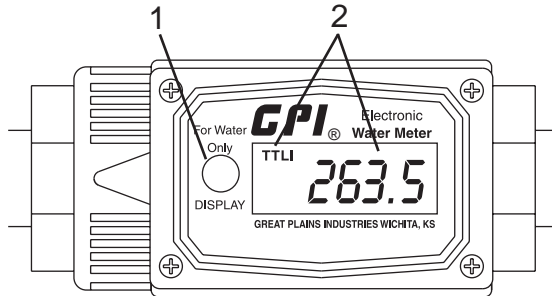

Figure 92
1. Activate the display by briefly pressing the DISPLAY button (Figure 92, Item 1).
2. Briefly press the DISPLAY button (Figure 92, Item 1) to change the total displayed - "Batch" mode (displayed as "TTL1") or "Cumulative" mode (displayed as "TTL2") (Figure 92, Item 2).
3. To reset the "Batch" total display, press and hold the DISPLAY button (Figure 92, Item 1) for three seconds.